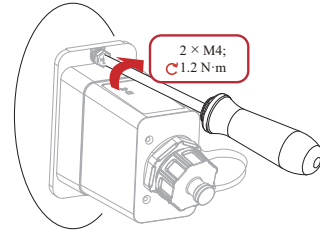

Figure 10c: Secure the Wi-Fi/Ethernet dongle
- C. Secure the Wi-Fi/Ethernet dongle. (Figure 10c)